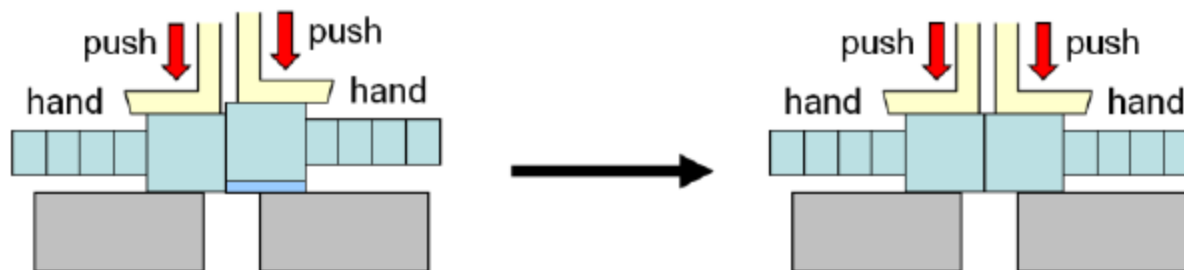

Figure 90 . Recommended method to align knee to remove any twist and shear
- **Step 5:** Check knee blocks are aligned to ensure knee is not twisted or in a shear condition before the test. Using two equal height blocks push down on the back of the knee for y direction and also on one side of the knee for x direction as shown in Figure 90. A straight edge can be used to double check alignment after any adjustment
- Step 2: Check knee block alignment (no twist, no shear) with straight edge (Figure 90)